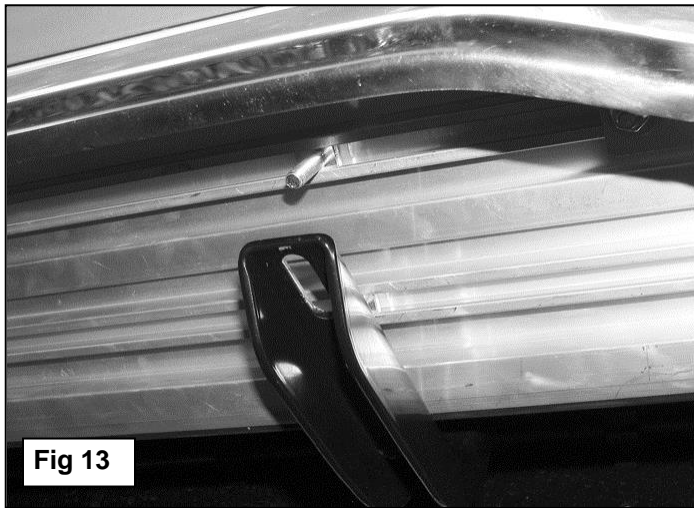
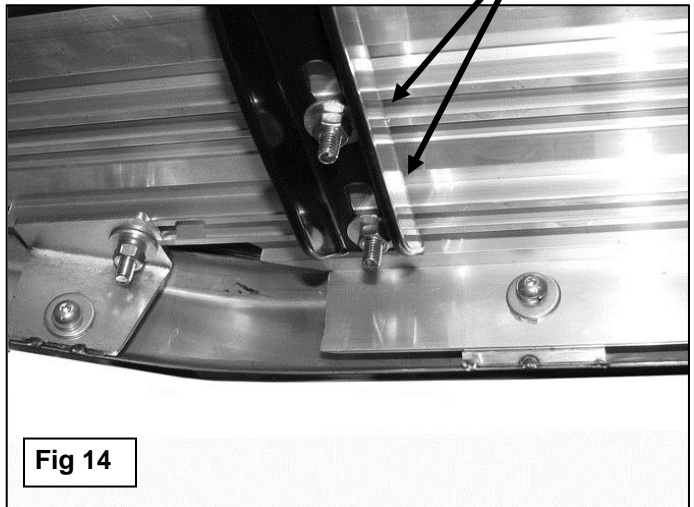

Fig 13
Fig 14
12. Carefully position the Driver/Left Running Board onto the (2) Mounting Brackets. Slide the T-Bolts into position and through the slots in the Brackets, (**Figure 13**). Attach the Board to the Brackets with (4) 6mm Flat Washers, (4) 6mm Lock washers and (4) 6mm Hex Nuts, (**Figure 14**). Do not tighten hardware at this time.